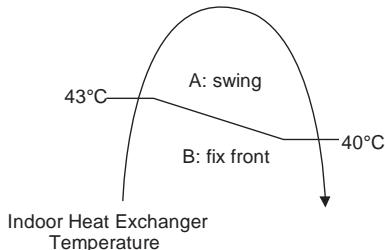

Figure 1
1. Automatic vertical airflow direction can be set using remote control; the vane swings up and down within the angles as stated above. For heating mode operation, the angle of the vane depends on the indoor heat exchanger temperature as Figure 1 below. It does not swing during fan motor stop. When the air conditioner is stopped using remote control, the vane will shift to close position.
- Automatic horizontal airflow direction can be set using remote control; the vane swings left and right within the angles as stated below. For heating mode operation, the angle of the vane depends on the indoor heat exchanger temperature as Figure 1 below. It does not swing during fan motor stop.